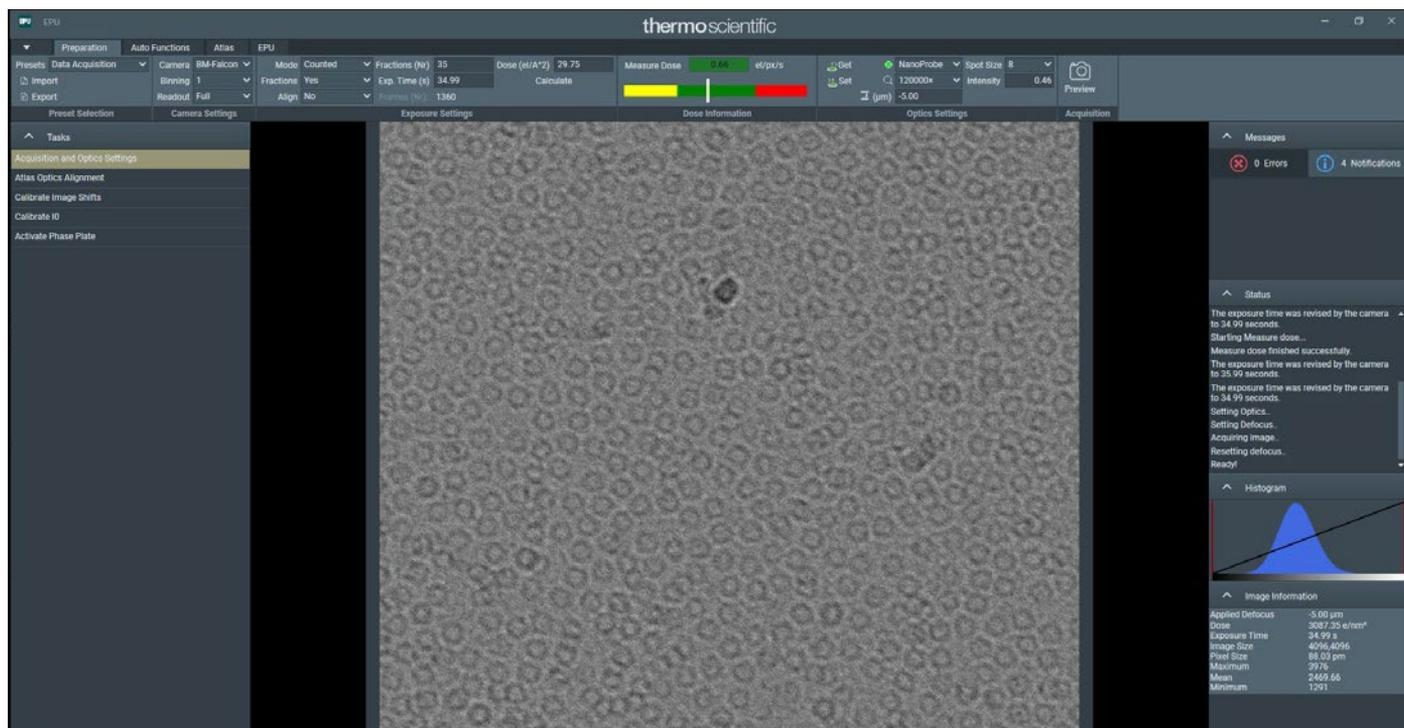

Figure 2: All camera and optical presets for the subsequent steps are defined in the Preparation tab
1. All essential settings for data acquisition are located in the Preparation tab (Figure 2). During the Preparation step, the preset is defined for camera settings and optics presets are defined for all subsequent steps in the screening and data acquisition process.